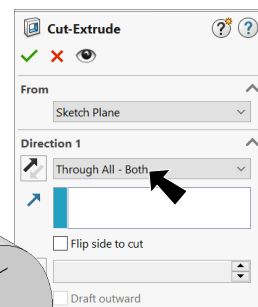

Fig. 11
Step 10. In the Cut-Extrude Property Manager set: under Direction 1, **Fig. 11**